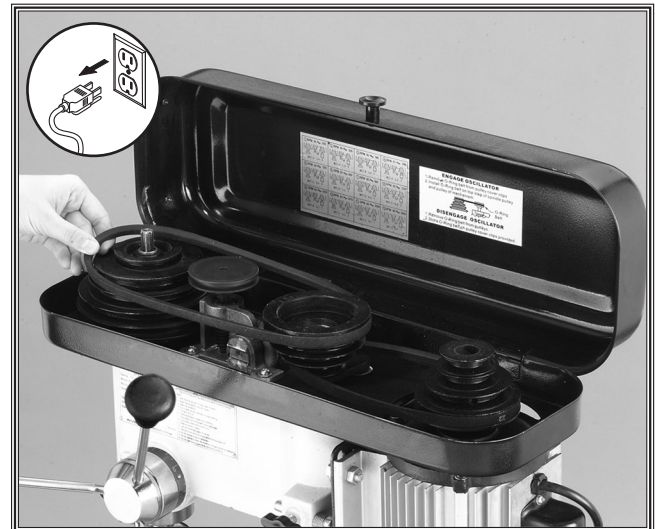

Figure 34. Adjusting belt to desired speed.
5. Move the V-belt to the desired V-grooves on the motor and spindle pulleys (see Figure 34).